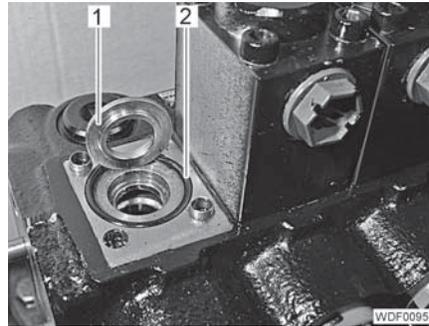

Fig. 180 Washer and O-ring
- Remove the washer (Fig. 180,1).
- Replace the O-ring (Fig. 180,2).
- Insert the ring (Fig. 180,1).